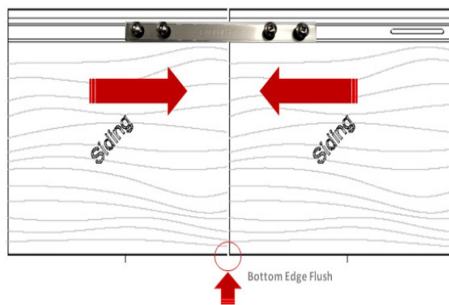

Figure 8
- Always make sure the bottom of panels align before installing the bracket (Figure 8).